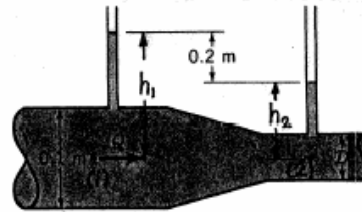

FIGURE P3.31
3.31 Water flows through the pipe contraction shown in Fig. P3.31. For the given 0.2-m difference in the manometer level, determine the flowrate as a function of the diameter of the small pipe, D .